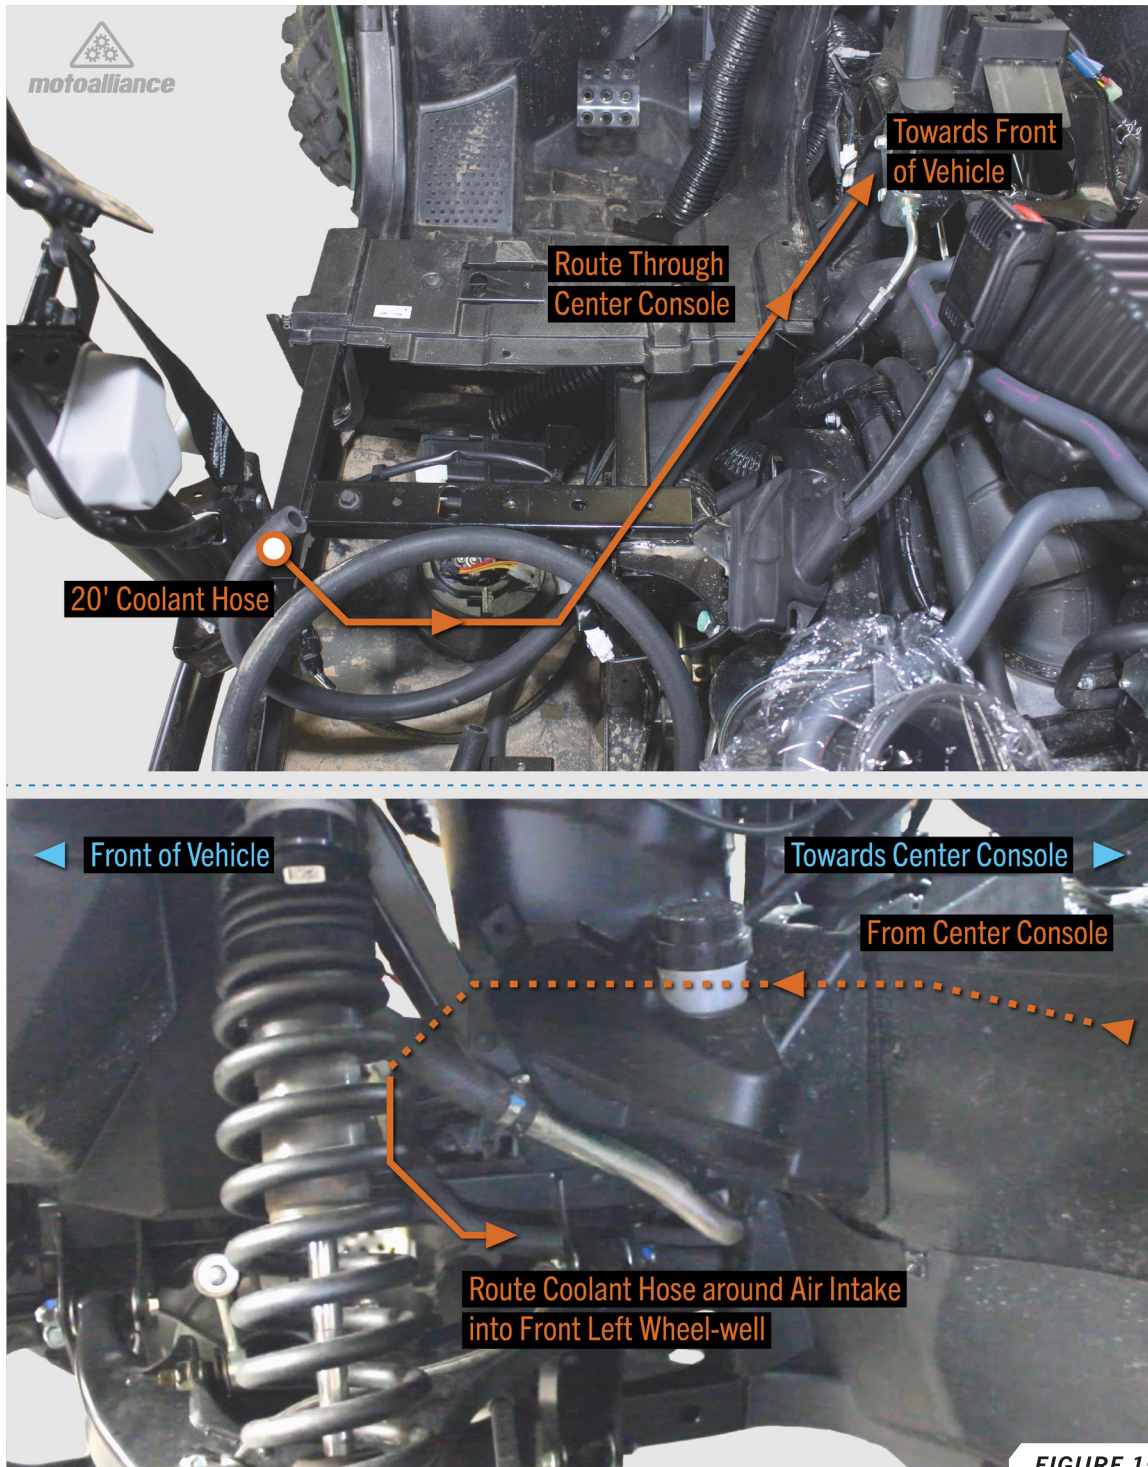

FIGURE 15
33. Route the 20' radiator hose into the cavity under the driver's seat, through the center console, and up through the center of the dash. Continue routing the radiator hose to the right of the air intake for the engine, then pass it toward the driver's side of the vehicle to the front left wheel-well. The end of the radiator hose should meet up next to the 1" radiator hose for the radiator. **FIGURE 15**